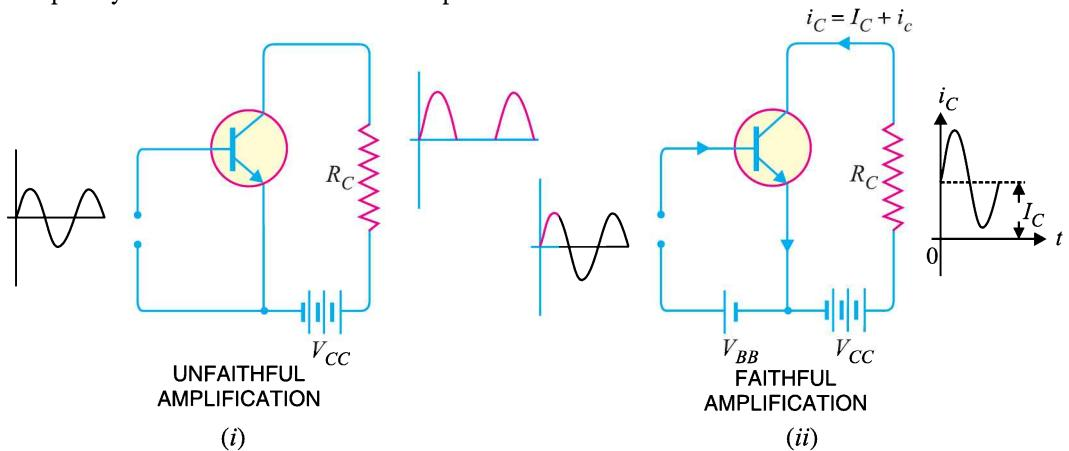

Fig. 9.1
**(i) Proper zero signal collector current.** Consider an *n-p-n* transistor circuit shown in Fig. 9.1 (i). During the positive half-cycle of the signal, base is positive w.r.t. emitter and hence base-emitter junction is forward biased. This will cause a base current and much larger collector current to flow in the circuit. The result is that positive half-cycle of the signal is amplified in the collector as shown. However, during the negative half-cycle of the signal, base-emitter junction is reverse biased and hence no current flows in the circuit. The result is that there is no output due to the negative half-cycle of the signal. Thus we shall get an amplified output of the signal with its negative half-cycles completely cut off which is unfaithful amplification.
Now, introduce a battery source  $V_{BB}$  in the base circuit as shown in Fig. 9.1 (ii). The magnitude of this voltage should be such that it keeps the input circuit forward biased even during the peak of negative half-cycle of the signal. When no signal is applied, a d.c. current  $I_C$  will flow in the collector circuit due to  $V_{BB}$  as shown. This is known as *zero signal collector current*  $I_C$ . During the positive half-cycle of the signal, input circuit is more forward biased and hence collector current increases. However, during the negative half-cycle of the signal, the input circuit is less forward biased and collector current decreases. In this way, negative half-cycle of the signal also appears in the output and hence faithful amplification results. It follows, therefore, that for faithful amplification, proper zero signal collector current must flow. *The value of zero signal collector current should be atleast equal to the maximum collector current due to signal alone i.e.*